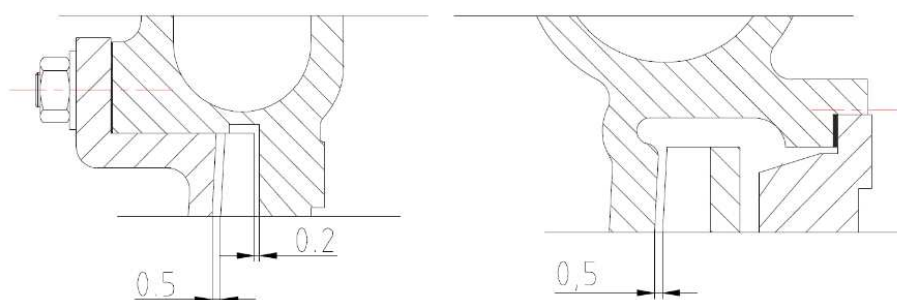

Fig 32
- Check the CLEARANCES in front and behind the impeller (*see Fig. 32*).